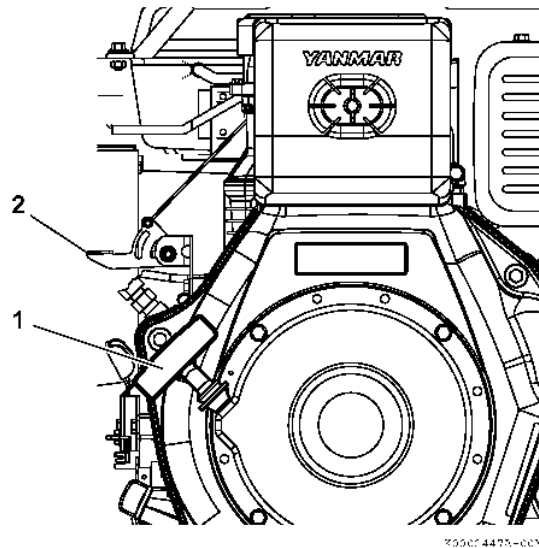

Figure 35
A recoil starter allows you to manually start an engine by pulling on the recoil starter handle (**Figure 35, (1)**). When you pull on the handle you set the flywheel and crankshaft in motion. The recoil starter is spring-loaded so the handle and attached rope automatically return to the recoil starter assembly.
Pressing the decompression lever (**Figure 35, (2)**) helps you start the engine by reducing the effort needed to pull the recoil starter handle. The decompression lever will automatically return to the original position when the engine starts.